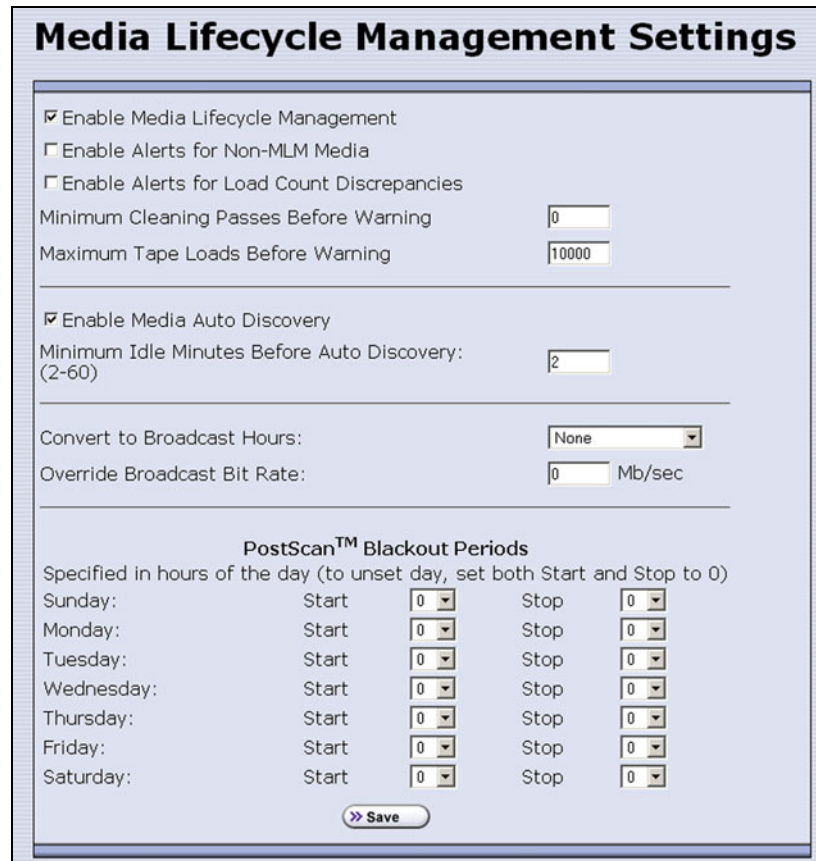

Figure 177 Use the Media Lifecycle Management Settings screen to enable MLM and configure the global configuration settings.
2. From the toolbar menu, select **Configuration** → **Media Lifecycle Management**. The Media Lifecycle Management Settings screen displays (see Figure 177 on page 296).